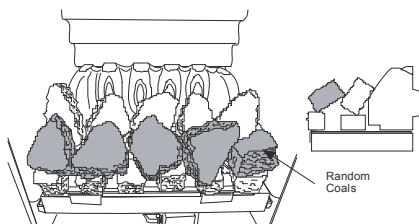

Figure 20
5. Continue laying the coals as shown in **Figure 20 to Figure 23** ensuring that the coals are placed 'loosely'. Packing the coals too tightly together will result in a poor flame picture. The best results come from a 'loose' fuel build.